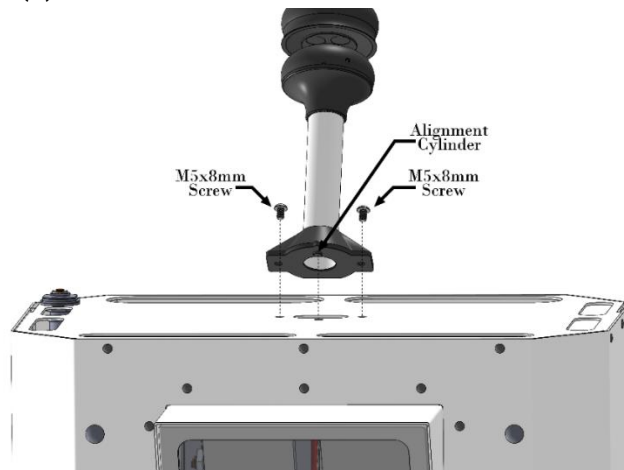

Figure 5 Mounting the anemometer
1. Remove (2) M5 x 8 mm screws from the top of the Kuva Camera.
3. Ensure that the alignment cylinder at the bottom of the anemometer fits into the alignment cylinder receptacle on top of the camera enclosure as per Figure 5.
4. Reinstall the (2) M5 x 8 mm screws.